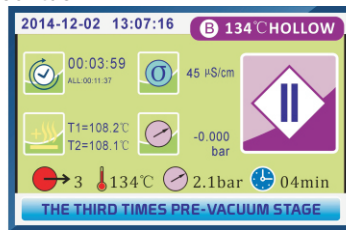

Fig.5.3-10
5.3.1.7.THE THREE TIMES PRE-VACUUM STAGE(Fig.5.3-10)